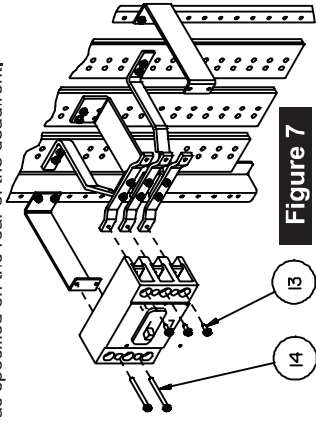

Figure 7
8. Refer to Figure 7: Install a circuit breaker by inserting one 1/4"-20 x 5/8" screw (Item 13) into each of the three contacts on the "ON" side of the breaker and into the 0.228" diameter holes at the left end of the A, B & C-phase link bars and tighten. Insert two 1/4"-20 x 2-3/4" thread-forming screws (Item 14) into the two mounting holes at the "OFF" side of the breaker and into the two 0.228" diameter holes in the QR mounting bracket and tighten. Torque all connections to the values as specified on the rear of the deadfront.